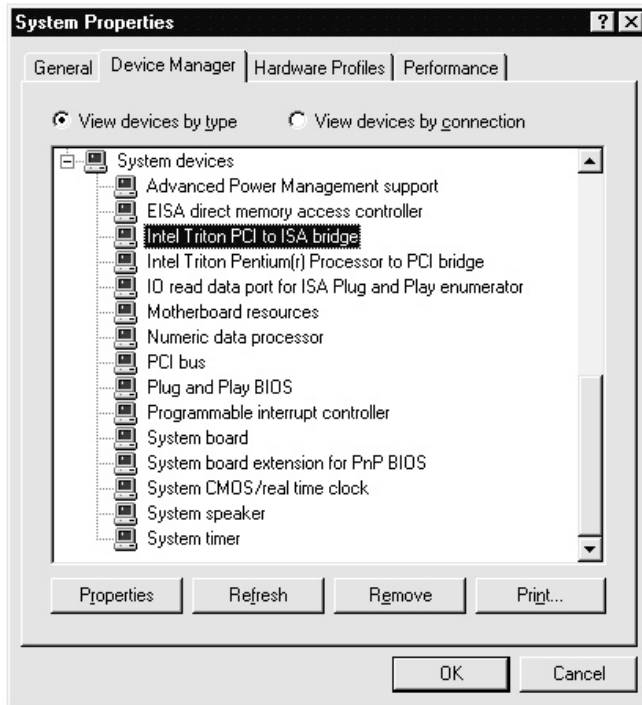

FIGURE 47-8 Locating the “PCI to ISA bridge” in Device Manager
- 4 Click the plus sign (+) in front of System Devices and look for a reference to the “PCI to ISA bridge,” as in Figure 47-8.